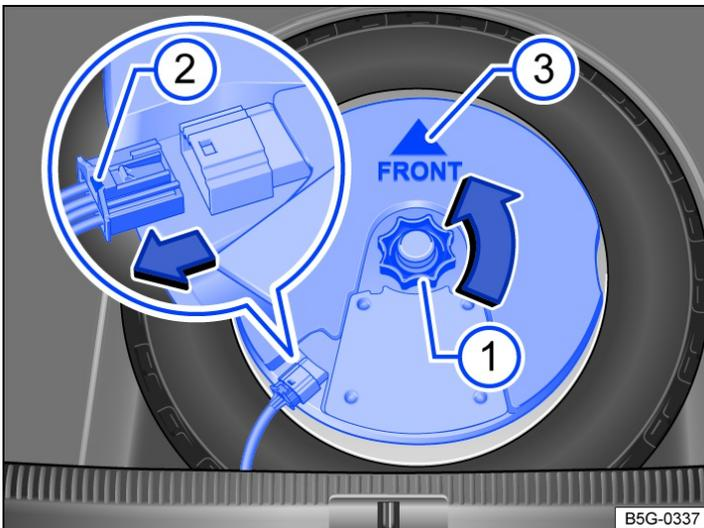

Fig. 2 In the luggage compartment: removing subwoofer (type 2).
- Unscrew handwheel → Fig. 2 (1) in the direction of the arrow.
- To release the connector, press the catch on the end of the plug → Fig. 2 (2).